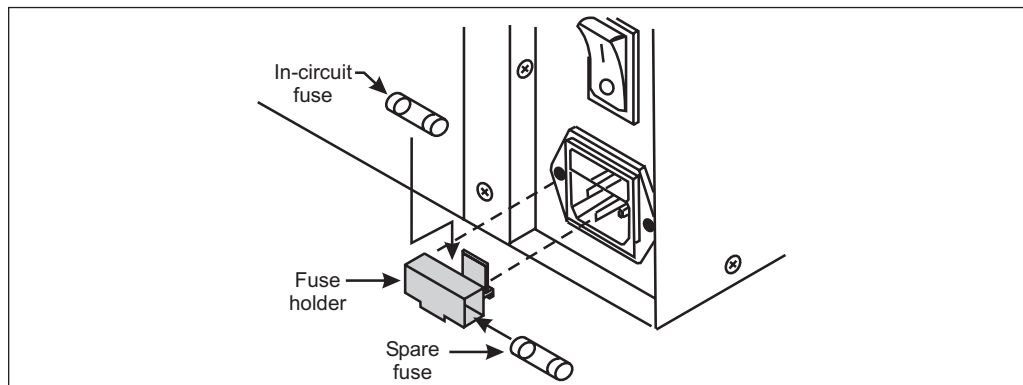

Figure 31
3. Remove the faulty fuse and install a new fuse of the correct type. Refer to Figure 31. The fuse that goes into the printer first is the one that is “in-circuit.” If you use the spare fuse, be sure to order a replacement fuse (fuses can be ordered from your Brady distributor).